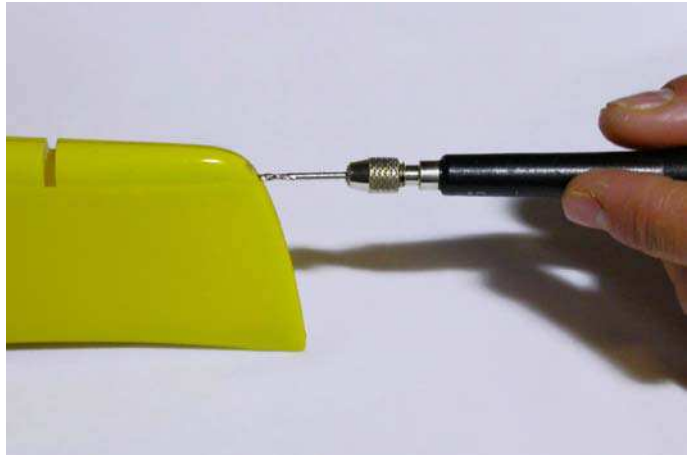

Fig.45: Drill in the point shown.
- drill **2 mm** diameter hole on the upper side of the rudder as shown in figure 45;